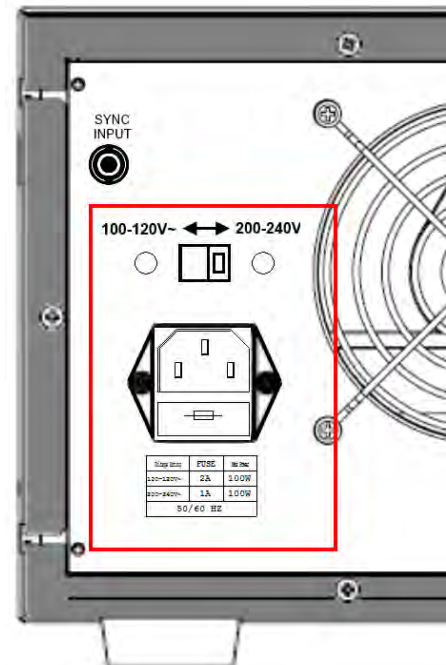

Figure 5-1: AC Input Voltage Selection
2. Refer to the drawing of the rear panel of the 3B series load in shown in Figure 5-1 to set the AC line selector switch to the proper voltage.